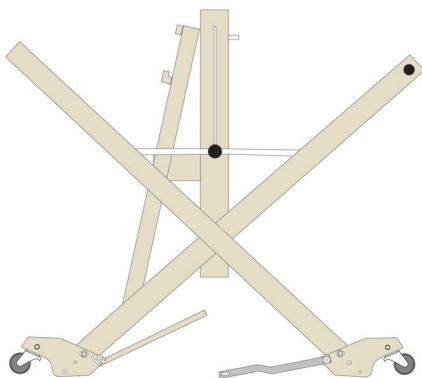

FIGURE 2: UNFOLDED
2. For weaving: Remove the wing nuts from the front stroller blocks and detach the stroller bars. Replace the wing nuts on their bolts and tighten. Loosen the fold knobs one-quarter turn, unfold the loom, and secure the slide lock bars if your loom has them. The loom now sits on its legs (Figure 2).